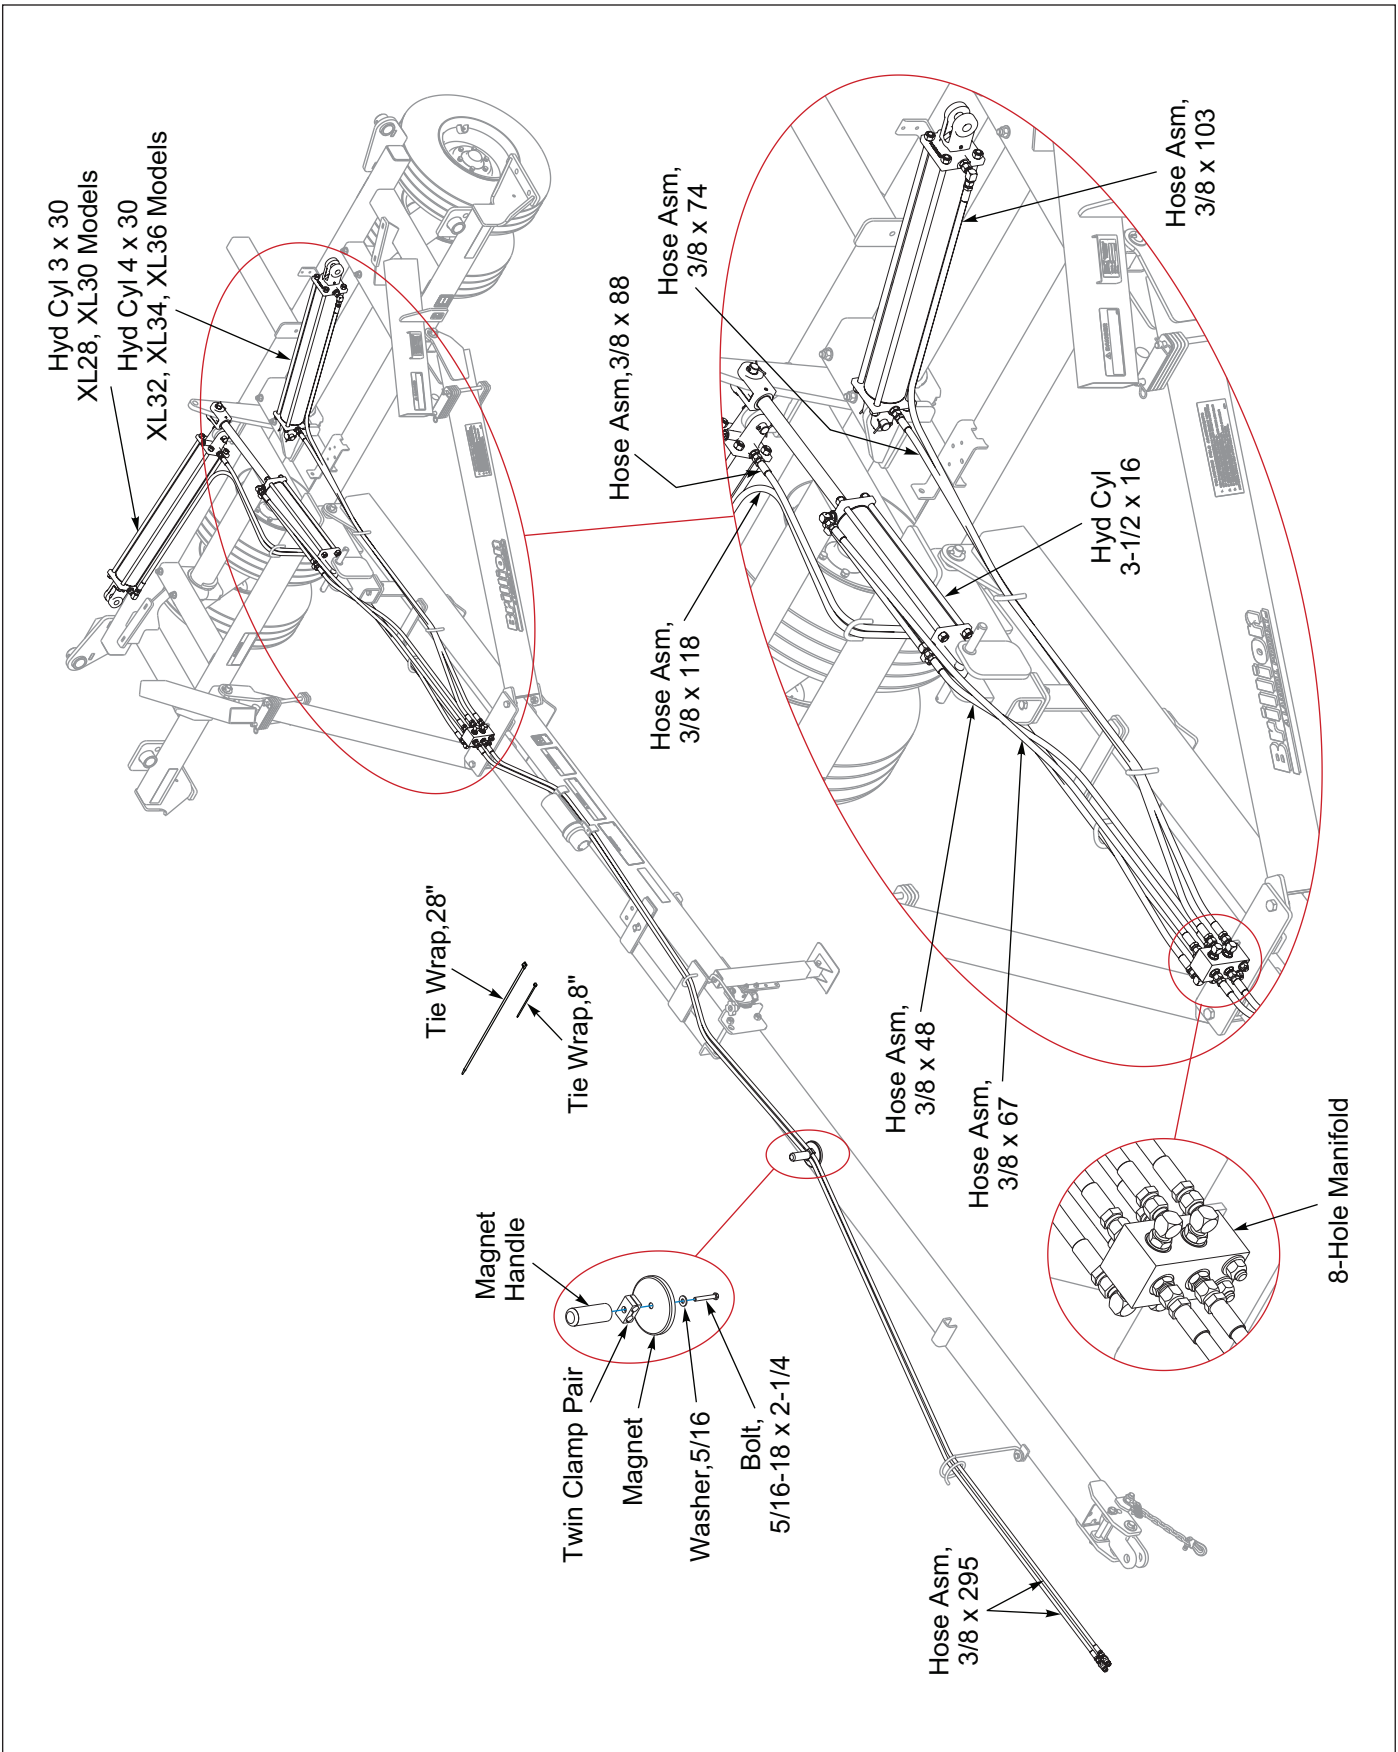

Figure 2-11: Hydraulic Layout
1. Attach the 8-Port Manifold to the front of the Manifold Bracket located on top of the drawbar strap with 1/2-13 x 3-3/4 Bolts, Flat Washers and Locknuts. Install the fittings into the manifold with the elbow fittings pointing rearward. **See Figure 2-11.**